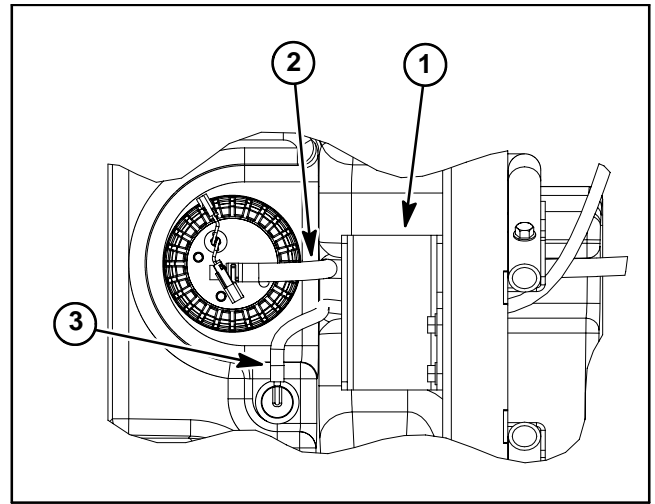

Figure 9
4. Note routing of fuel hoses for installation purposes (Fig. 9). Disconnect fuel supply hose from fuel pump/sender and tank vent hose from rollover valve. Plug fuel hoses to prevent leakage or contaminant entry.
5. Remove washer head screws (item 18) and retainer plate (item 14) that secure fuel tank.
2. Remove plugs placed in fuel hoses during fuel tank removal. Connect fuel supply hose to fuel pump/sender and tank vent hose to rollover valve (Fig. 9). Secure fuel hoses with hose clamps.
4. Position retainer plate (item 14) to tank and frame. Make sure that fuel hoses are correctly placed under plate. While pressing down on retainer plate to best retain tank, install and tighten washer head screws (item 18) to secure fuel tank.